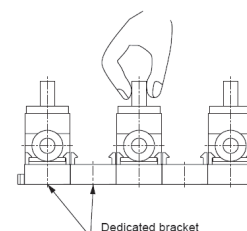

Figure2 Manifold piping with the lever turned around by hand
14. Manifold being piped with the lever turned around by hand, please install the valve in one space over-after another. That makes the manual operation easier. (Figure 2)